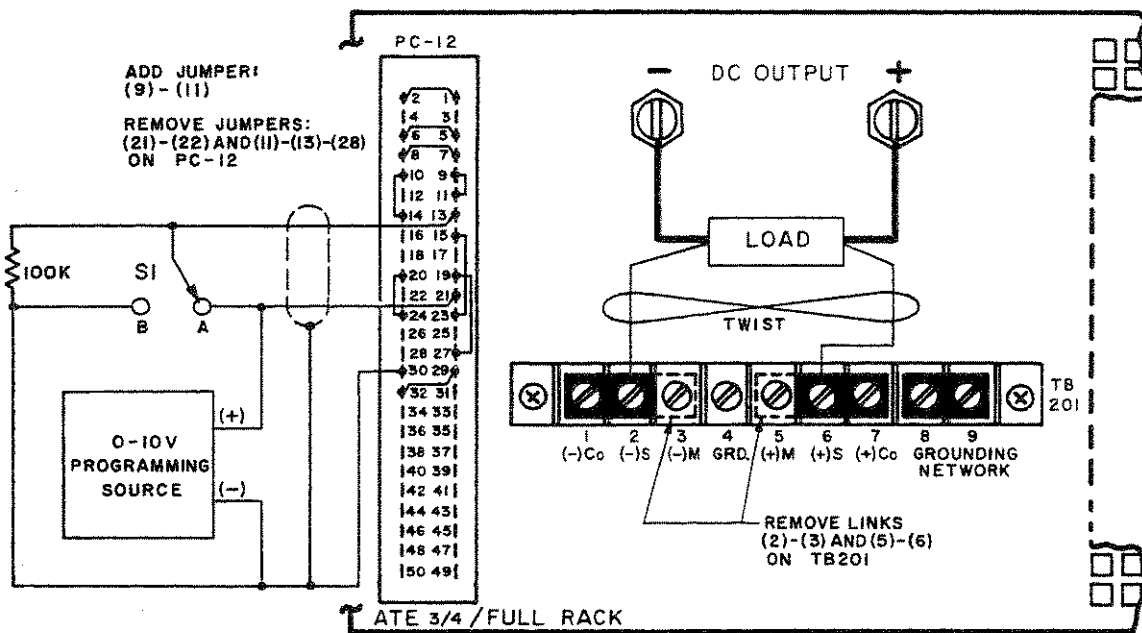

FIG. 3-15 CONNECTIONS FOR SIMULTANEOUSLY PROGRAMMING THE ATE OUTPUT VOLTAGE AND THE CROWBAR LEVEL (AUTOMATIC TRACKING).
- 1) Connect jumpers on the REAR PROGRAMMING CONNECTOR as indicated in FIG. 3-15 and connect switch (S1) as shown. Turn front panel CROWBAR LEVEL control fully counterclockwise.
- 2) Connect a substitute LOAD and the EXT. PROGRAMMING SOURCE as shown in FIG. 3-15.
- 4) Remove S1, and connect a jumper between (13)-(21) of PC-12. Connect the actual LOAD, reactivate the ATE circuit breaker and commence operation. Should erratic triggering occur in actual operation, set front panel CROWBAR LEVEL control slightly clockwise. This will increase the "threshold" voltage; that is, the difference voltage between the crowbar level and the operating voltage.
- (1) For operation with the ATE in "FAST" mode, all connections shown in FIG. 3-15 are valid, for both "SLOW" and "FAST" operating modes, except as follows:
- 2) Do not add jumper (9)-(11) on PC-12.
- 3) Remove only jumpers (21)-(22) and (11)-(13), not jumper (13)-(28) on PC-12.
- 4) In paragraph 3-77, Step 4, connect jumper between pins (11) and (21), not between (13) and (21).